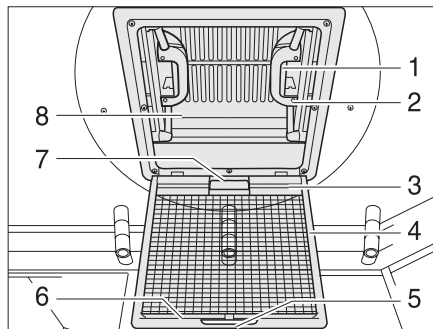

Fig. 43 Skylight with snap latch
- ▶ Pull the handle (Fig. 43,5).
- ▶ Fold the insect screen (Fig. 43,4) downwards.
- ▶ Push the spring-loaded latch (Fig. 43,1) towards the inside of the skylight (Fig. 43,8).
- ▶ At the same time use the handle (Fig. 43,2) to press the skylight upwards.
- ▶ Swing the insect screen upwards (Fig. 43,4) until it latches in place.
- ▶ Using both handles (Fig. 43,2), pull down the skylight (Fig. 43,8) with force until the two
snap latches (Fig. 43,1) lock into place.
- ▶ Pull the handle (Fig. 43,7) of the blind and hook the hook rail (Fig. 43,3) into the retainer (Fig. 43,6) on the insect screen.
- ▶ Release the hook rail (Fig. 43,3) from the retainer (Fig. 43,6) and feed the blind back slowly.